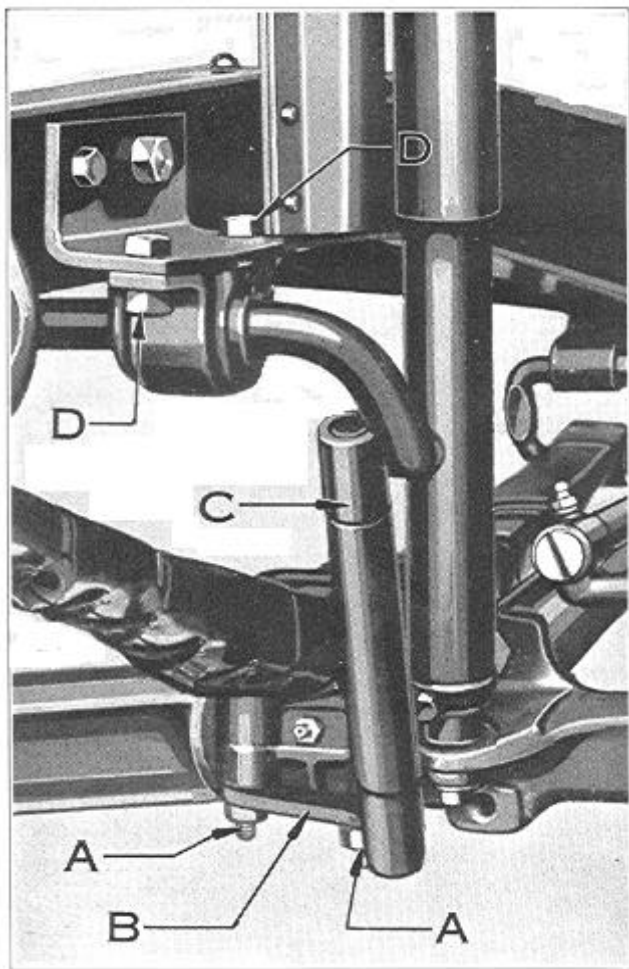

Figure 10
50. Jack up front axle. Remove nuts (A) from front spring U bolts and remove plate (B) to which bottom of connecting link (C) is attached. (Figure 10).
51. Remove rubber bearing mounting clamp bolt nuts (D) and remove assembly.